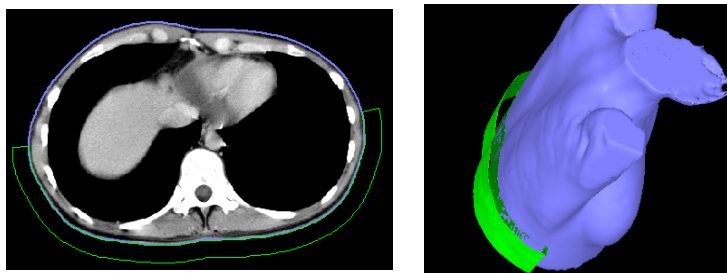

Figure 280 – Generated bolus ROI around the skin surface
5. After the fourth point is defined in the current view, the bolus calculation process starts automatically. The bolus is generated and displayed as contours in the image series and as volume in the 3D view (see Figure 280).